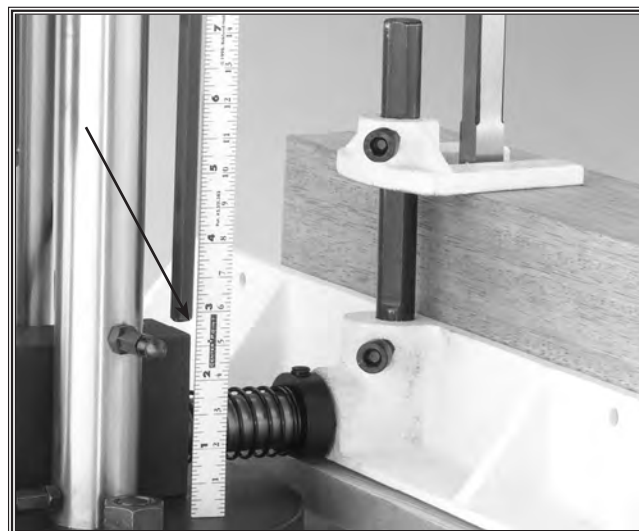

Figure 31. Setting the depth stop to $2\frac{7}{8}$ \".
3. Adjust the depth stop rod to correct depth for producing blind mortises. In **Figure 31**,